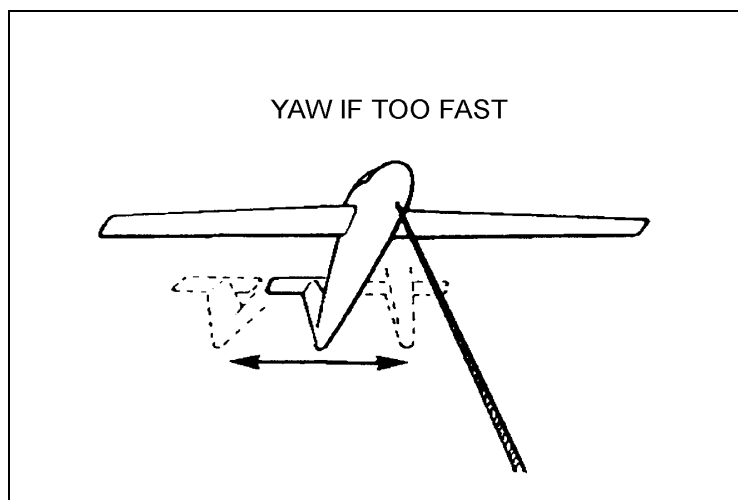

Figure 2-6-3 Too Fast Signal
18. In the event that a reduction in the climb speed during an auto launch is necessary, the glider pilot shall reduce the climb angle to prevent exceeding the placard speed, and shall yaw the glider from side to side to signal the auto launch observer to reduce speed (see Figure 2-6-3).